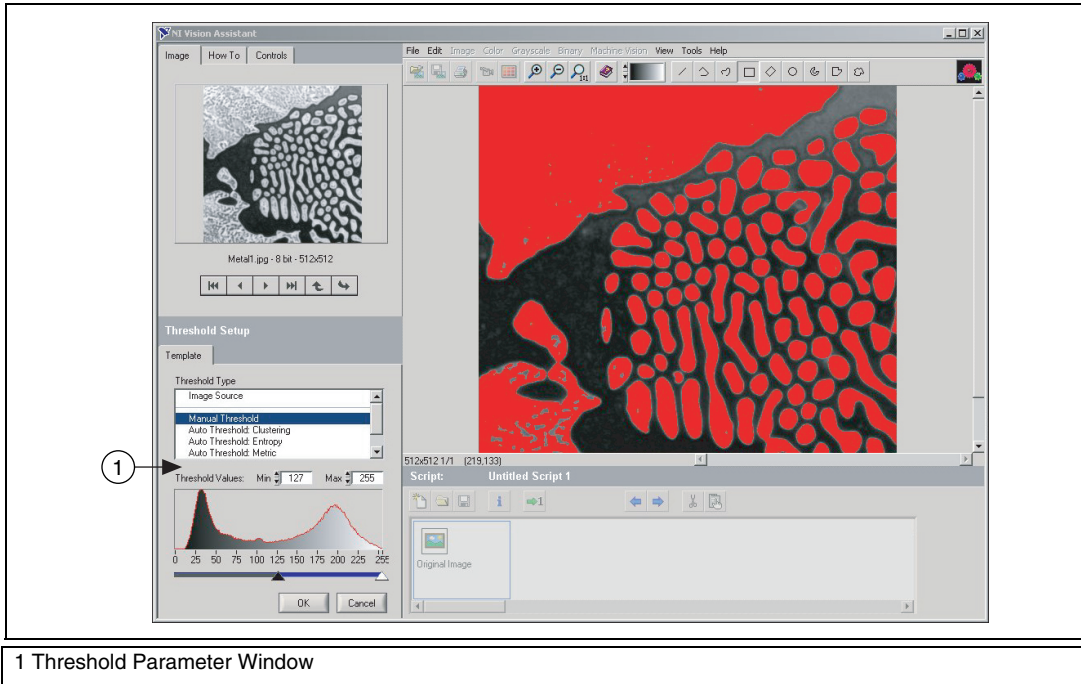

Figure 2-3. Thresholding an Image
- Click the **Grayscale** tab of the Processing Functions palette and click **Threshold**, or select **Grayscale»Threshold**. The Threshold Parameter window appears in the lower left corner of the Vision Assistant window, as shown in Figure 2-3.